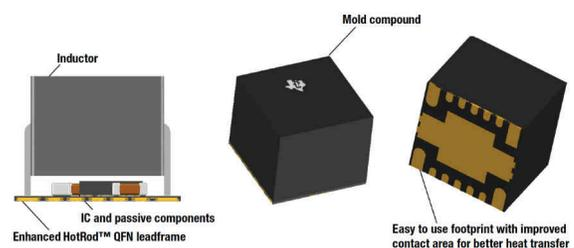

Figure 2. The enhanced HotRod™ package combines superior thermal performance with an increased level of integration
Taking a closer look, the Enhanced HotRod QFN package combines the bare flip-chip integrated circuit (IC), the power inductor, bypass capacitors, and feature-programming resistors into a three-dimensional stack. **Figure 2** shows the inductor is mounted above the IC and other passive components.